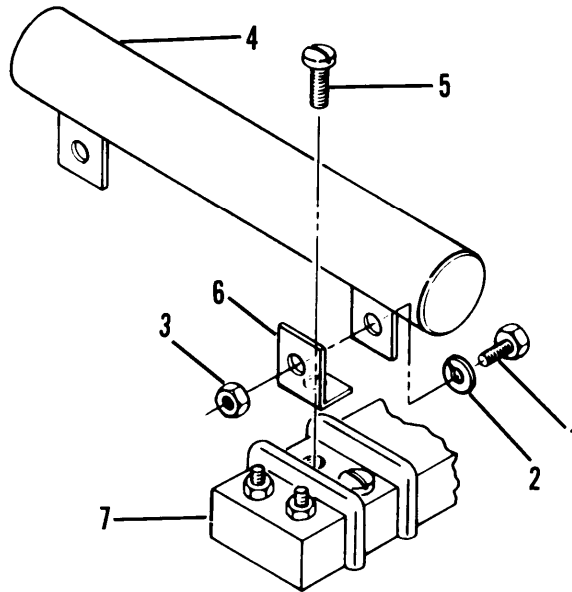

Figure 4-5. Resistor
(1) Remove two screws (1, fig. 4-5), washers (2) and nuts (3).
(1) Install two clips (6, fig. 4-5) to the terminal boards (7) and secure with two screws (5).
(2) Place resistor (4) into position.